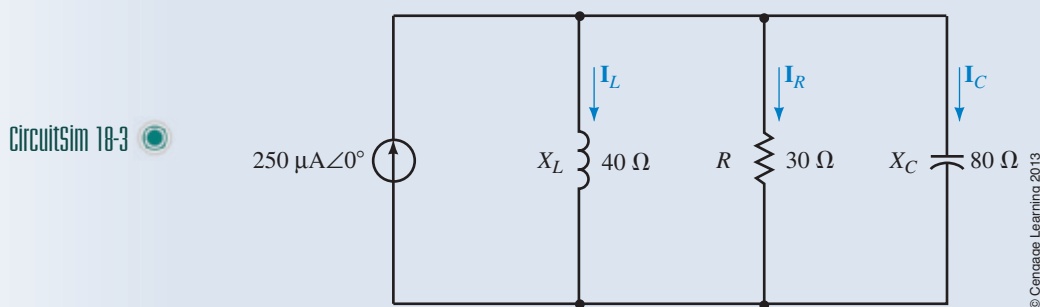

FIGURE 18–46
- a. Use the current divider rule to determine current through each branch in the circuit of Figure 18–46.
- b. Verify that Kirchhoff's current law applies to the circuit of Figure 18–46.